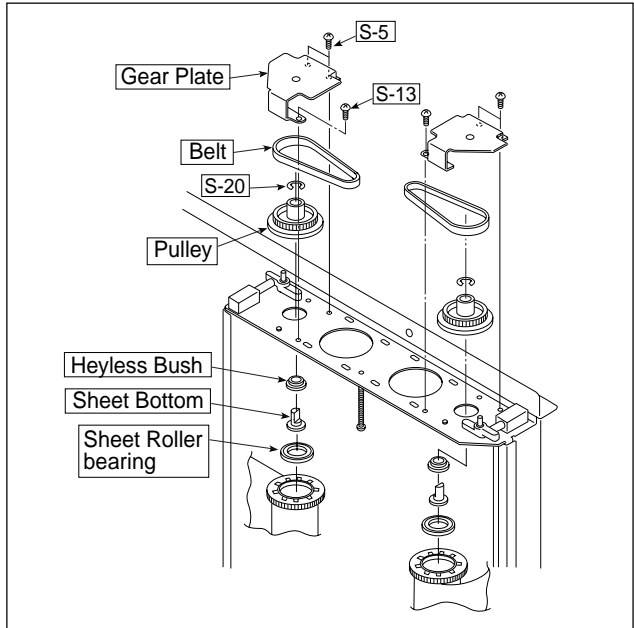

Fig. 13
9) Remove the Pulley, Belt. (See Fig. 13.)
1. Remove the "S-5" and "S-13" screws shown in Fig. 13 and then remove the Gear Plate.
2. Remove the "S-20" E-rings shown in Fig. 13 and then remove the Pulley, Belt.